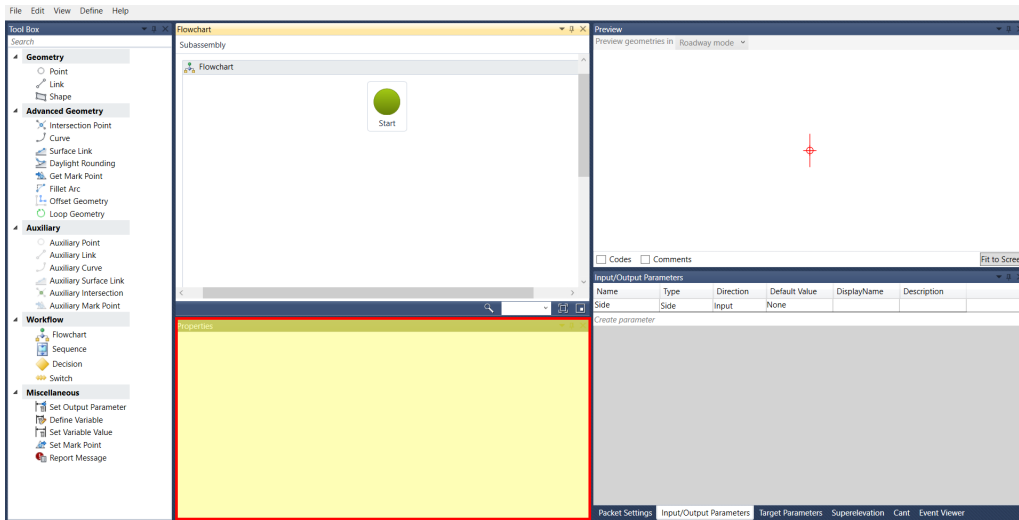

Figure 9.5 – Properties area
- **Properties:** This panel functions as the input location for parameters defining each geometry element (refer to *Figure 9.5*).